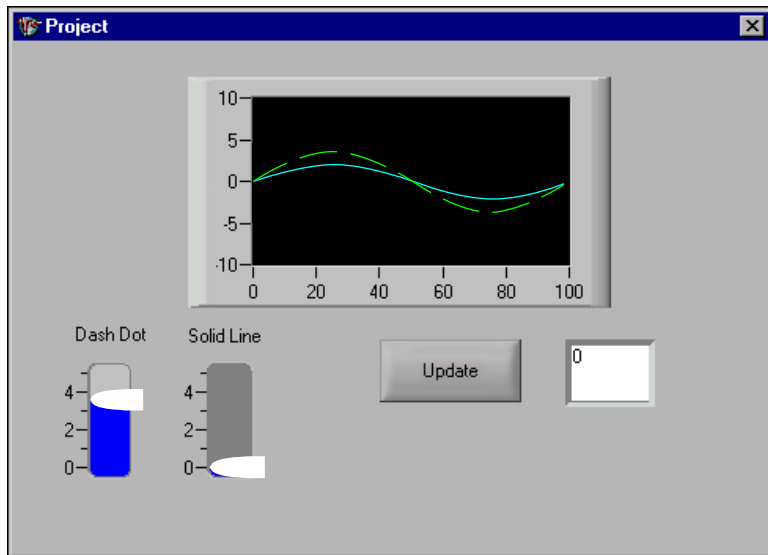

Figure 3-3. Project with Additional UI Controls
2. Experiment with different styles and options until your user interface matches the one in Figure 3-3. You can use either static text boxes or the **Caption** property on the slide control to add the captions to the slides.